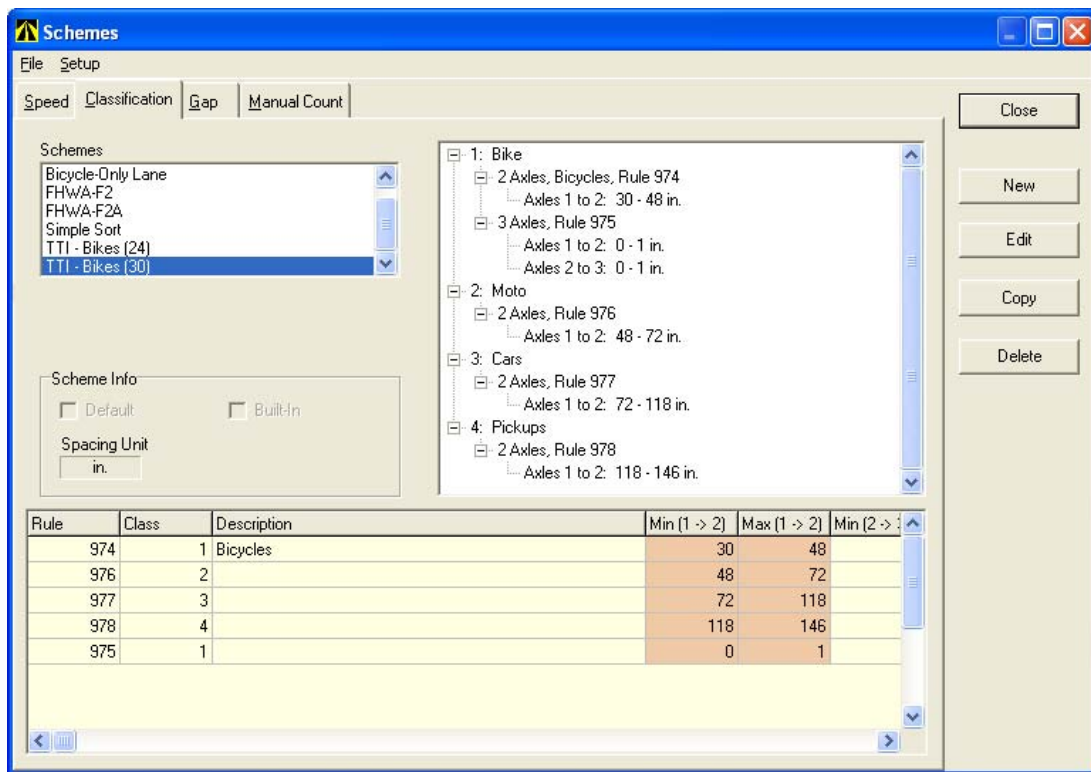

Figure 7. Time Mark VIAS Software Settings for TTI Bikes (30), Bicycle Classification Scheme.
After a few trial tests, we settled on a classification scheme called “TTI – Bikes (30)”, which has 4 classes (bikes, cars, motorcycles, and pickups). Each class is defined by axle spacing as shown in the screenshot Figure 7.
This classification scheme must be created in VIAS the first time that it is to be used. Under Schemes – Classification, SELECT the “New” button, and add the various vehicle classes and axle rules to match what is shown in Figure 7. The four vehicle types and all axle rules shown in Figure 7 should be used exactly as shown. The 3 axle bicycle rule helps with a software requirement in VIAS so that the software does not exclude vehicles.